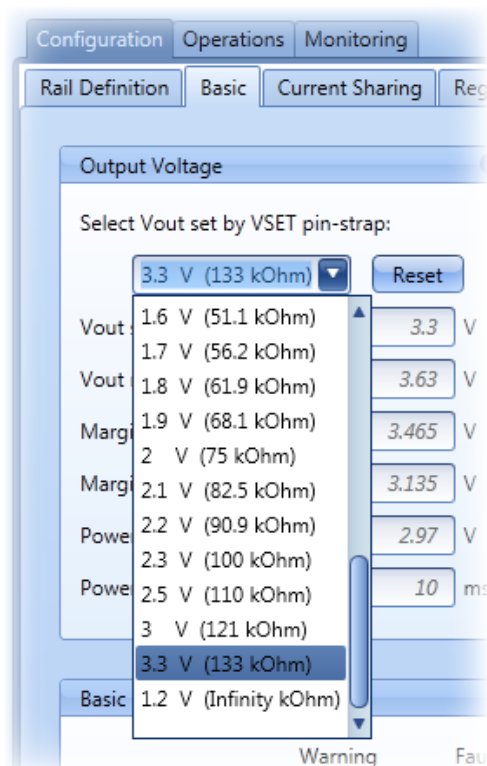

Figure 20. Setting the default voltage expected from the VSET pin. PMBus set voltages/ faults/timings can also be set on this tab.
Step 4. Outside of the optional droop setting, all we need to set in this example is the Rail's VSET resistor, which is 3.3V (the POL parallel board default across all phases). The setting is found on the 'Basic' configuration tab as shown in Figure 20. You may also configure custom voltages, timing, and fault settings here as well.